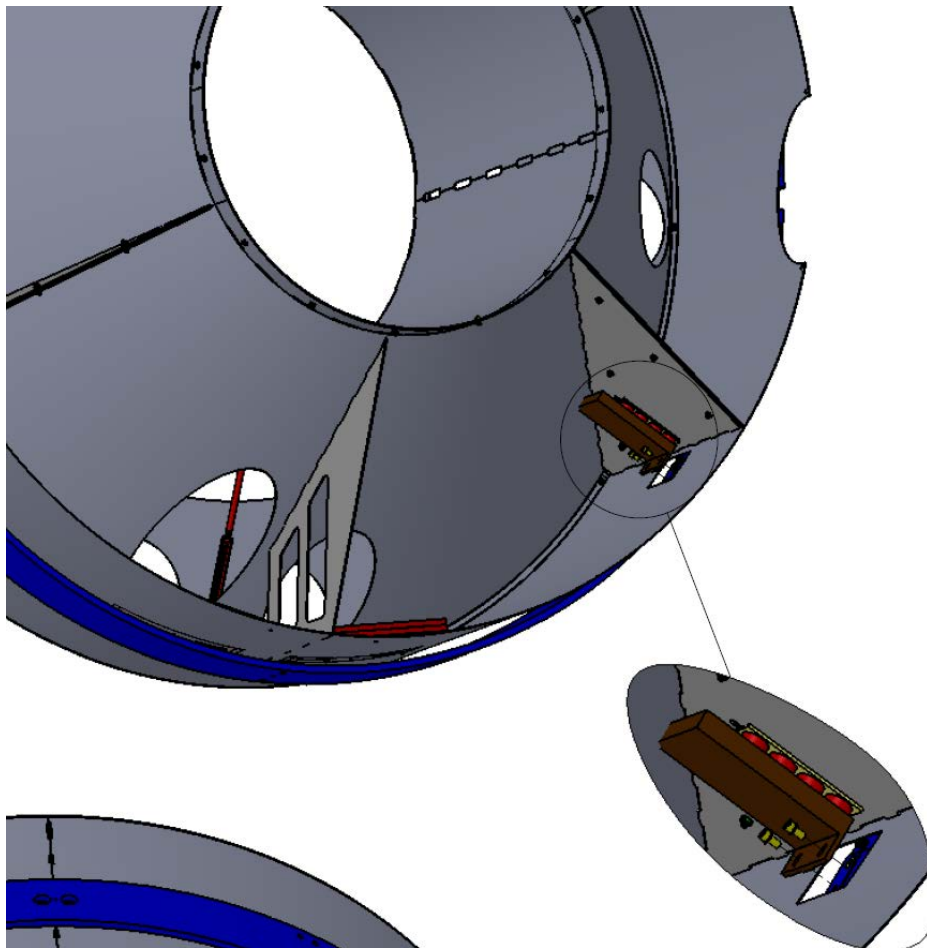
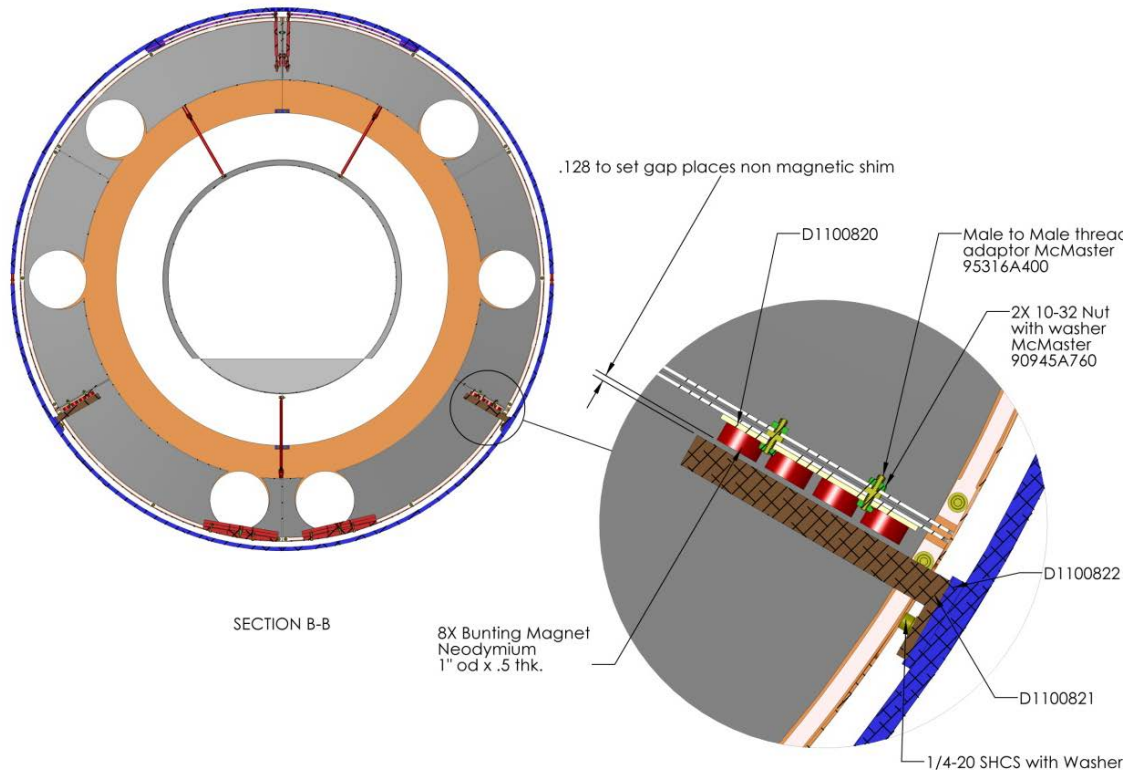

Figure 37: Attaching Eddy Current Damping Plate to the Support Ring
Figure 38: Setting the Damping Plate Gap
2. Insert the Manifold Cryopump Baffle Lower Copper Shim D1100822 and Manifold Cryopump Baffle Lower Copper Plate D1100821 through the rectangular opening in the bottom portion of the baffle outer cylinder and attach them to the bottom support ring, as shown in Figure 37 and Figure 38.
3. Place the D1300616 Gap Gauge between the Copper Plate and the face of the magnets. Slide Copper Plate D1100821 toward the magnets to set a 0.128in gap between the Copper Plate and the face of the magnets. Then, secure the mounting bolts to the support ring, as shown in Figure 38.